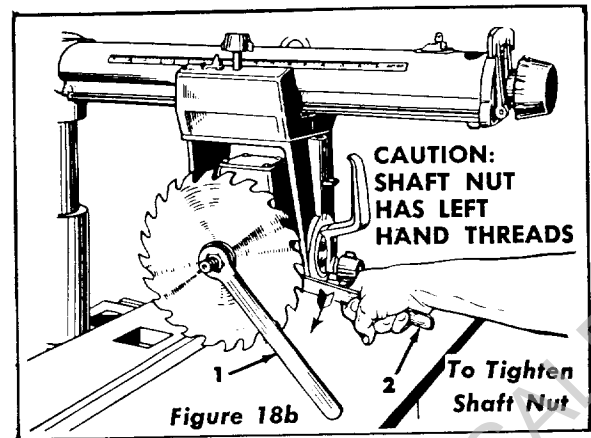

Figure 18b
4. Use arbor wrench (Item 1, figure 18b) on motor shaft nut and shaft wrench (Item 2, figure 18b) on slot in motor shaft to tighten shaft nut.